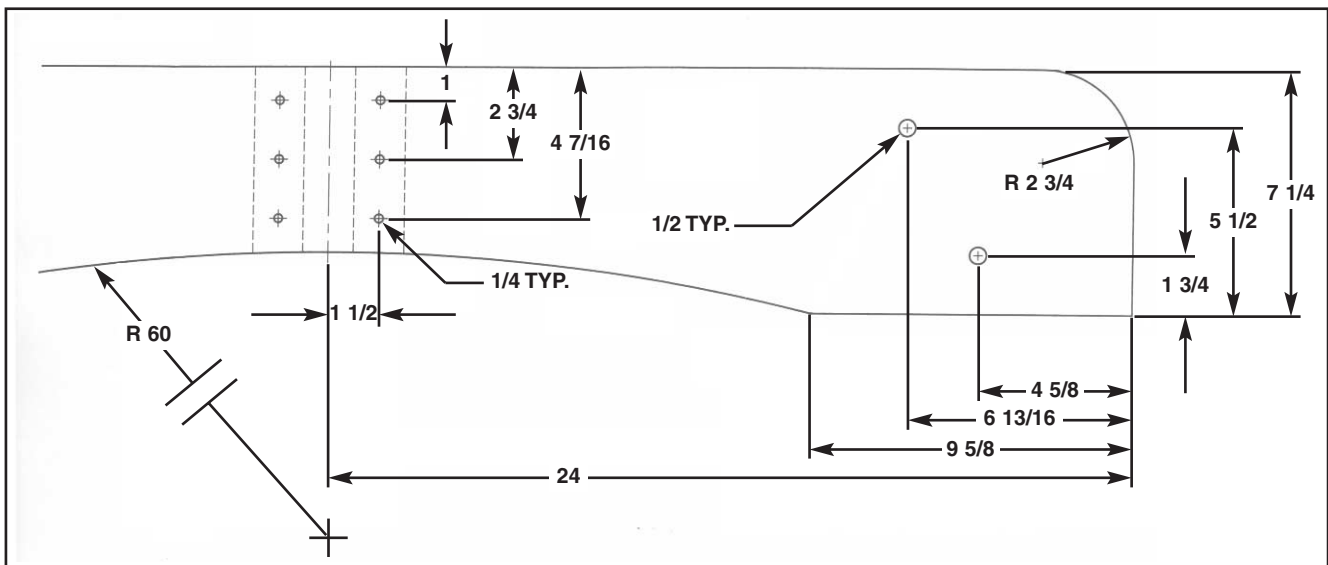

Figure 6
- Drill six 1/4" holes in board E. Attach E to A using six 1/4" by 3 1/2" lag bolts and washers. Refer to Figure 6.